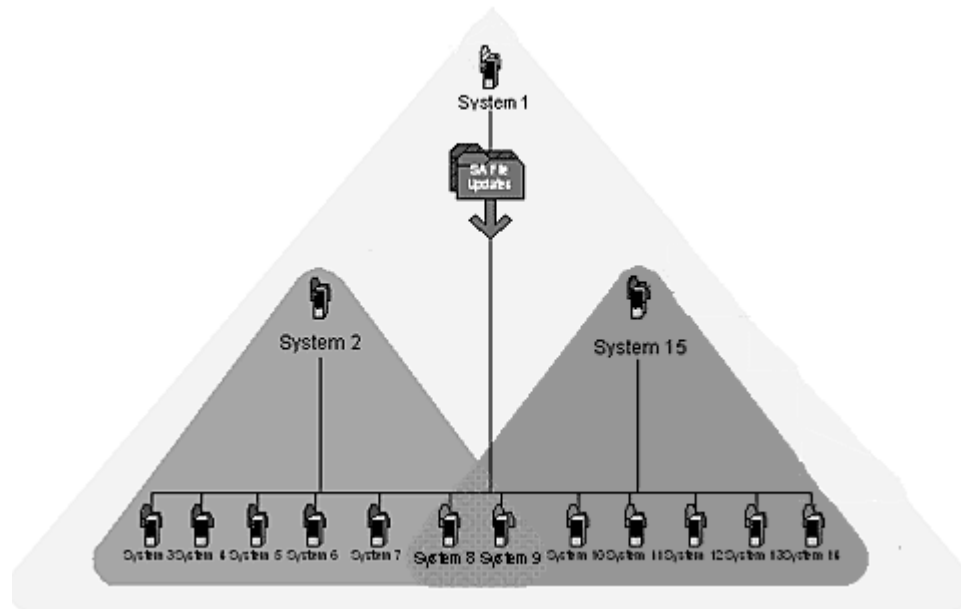

Figure 61: ASG Creation Example
5. Click **OK** in the New Access Sub-Group dialog box. The ASG is created. The following process sets up the ASG (see Figure 61)
- d. SA file updates are sent to each system in the ASGs. In Figure 61, System 2 has remote access to systems 3 through 9. System 15 has remote access to systems 8 through 15. System 2 and System 15 have remote access to systems 8 and 9.